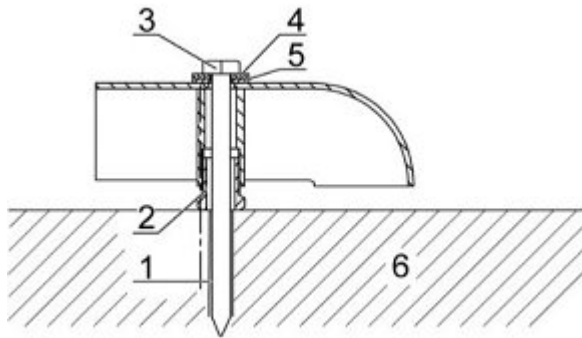

Figure 10 Fixing elements.
- ⇒ In case the optional UPS system is available: Activate the UPS functionality before the electrical installation (see Figure 10).
Figure 10 shows a schematic sketch of the electrical installation of the CHM 15k. The power supply (1) to the device must be connected via an external mains switch (2) which needs to be easily accessible to cut the power to the device when required. It must be marked as belonging to the CHM 15k and two pre-fuse 10A gG time-lag must be used. The connection box should be installed at a distance of < 3 m. An external lightning conductor (7) must be installed to protect the device from direct lightning strikes. All connections to the device must be made according to the respective country-specific regulations.